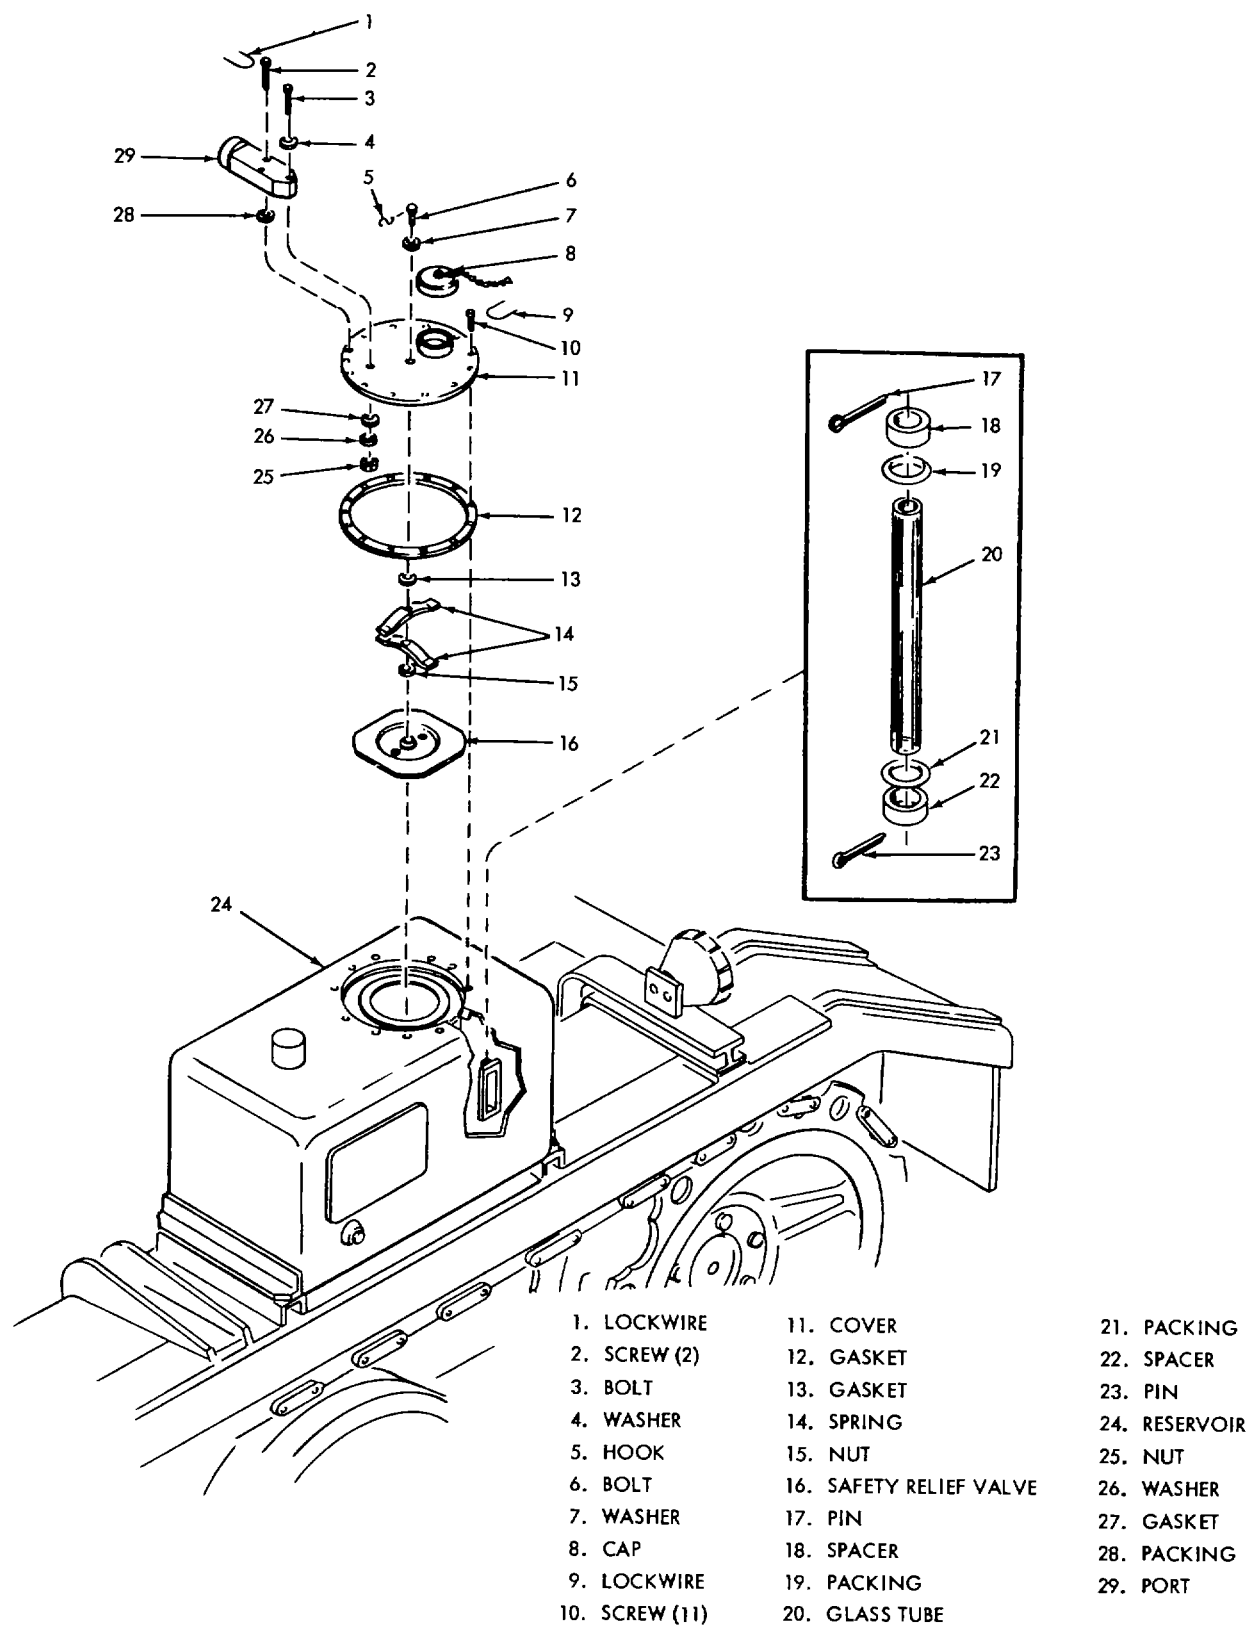

Figure 3-72. Hydraulic Fluid Reservoir Assembly Disassembly
b. Disassembly (fig. 3-72).
- (1) Remove lockwire from screws (9).
- (2) Remove 11 screws (10) which secure cover (11) to tank and remove cover.
- (3) Remove two each screws (2) and packing (28), and one each bolt (3), gasket (27), washer (26) and nut (25) which secure inlet port (29) to cover. Remove inlet port.
- (4) Remove bolt (6), washer (7), and nut (15) which secure chain to cover. Remove cap (8) and two leaf springs (14) from cover.
- (5) Remove cover gasket (12) from reservoir.
- (6) Remove safety valve (16), gasket, element, gasket, holder, and packing (in that order) from inside reservoir.
- (7) Reach inside reservoir opening and remove pins (17 and 23) and spacers (18 and 22).
- (8) Slide glass tube (20) up and out of packings (19 and 21).
- (9) Remove packings (19 and 21) from reservoir (24).